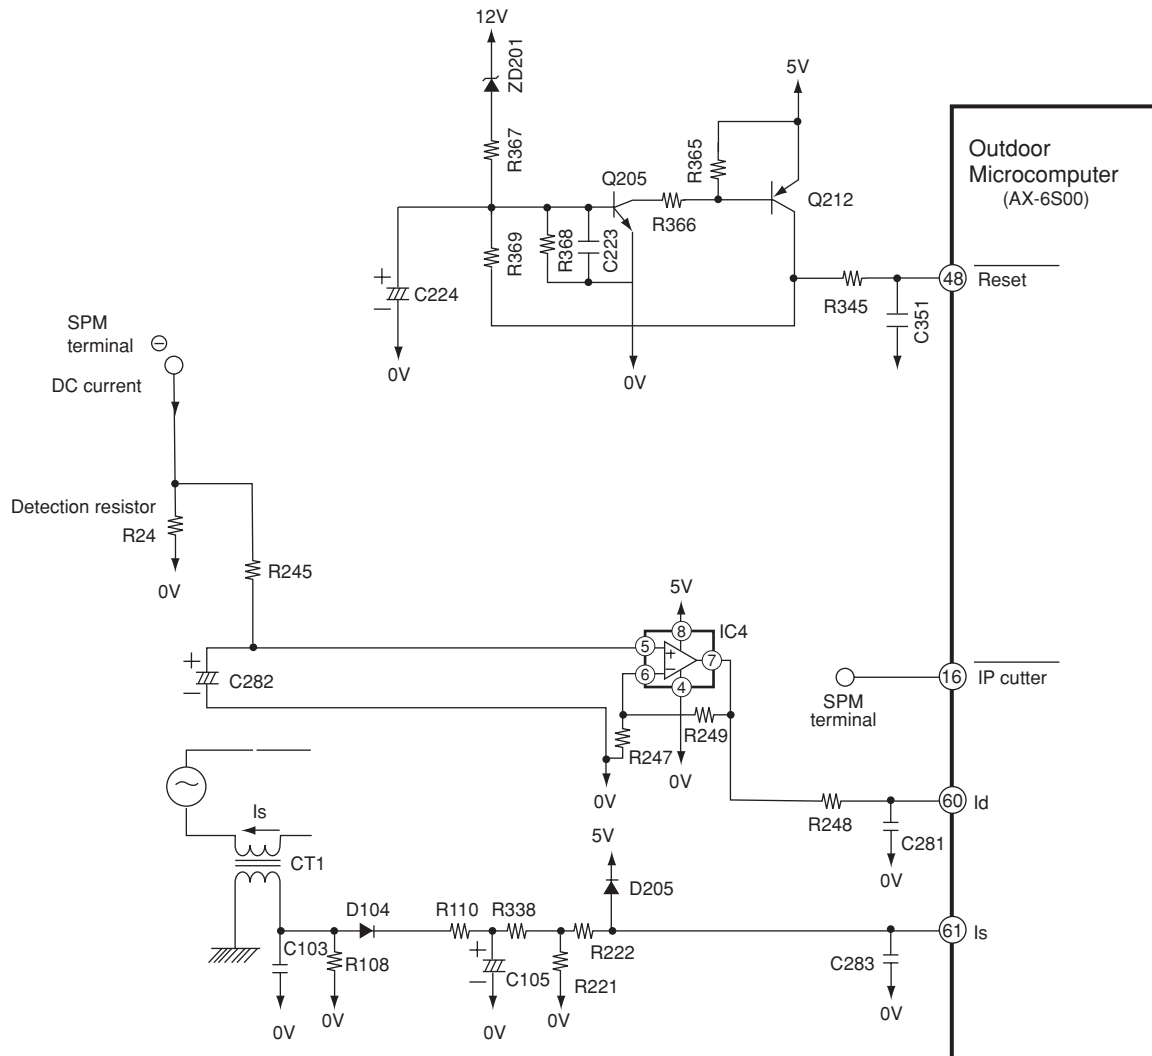

Fig. 7-1 Peripheral circuit of microcomputer (AX-6S)
- Fig. 7-1 shows the microcomputer and its peripheral circuits.